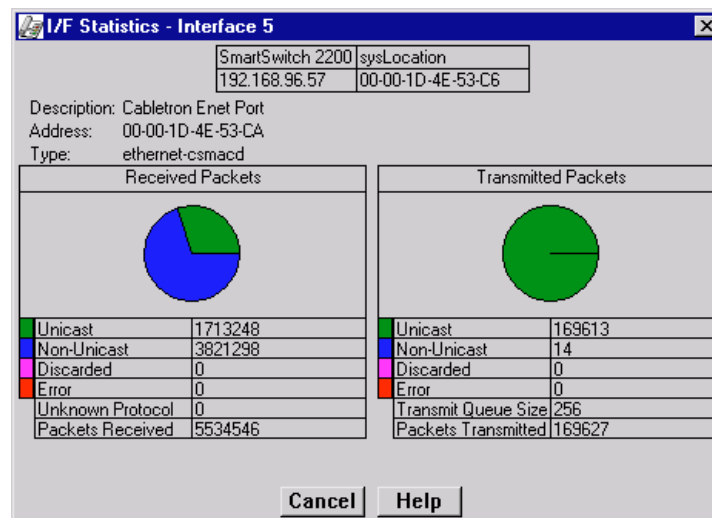

Figure 4-3. The Interface Statistics Window
2. **For RMON statistics** (where available), click to select **Statistics**. The RMON Statistics (Figure 4-1) or MIB-II Interface Statistics (Figure 4-3) window, as appropriate, will appear.
For MIB-II interface statistics, click to select **I/F Statistics**. The MIB-II Interface Statistics window (Figure 4-3) will appear.
The Interface (IF) Statistics window (Figure 4-3) provides MIB-II interface statistical information — including counts for both transmit and receive packets, and error and buffering information — for any port interface on the selected SmartSwitch 2000.